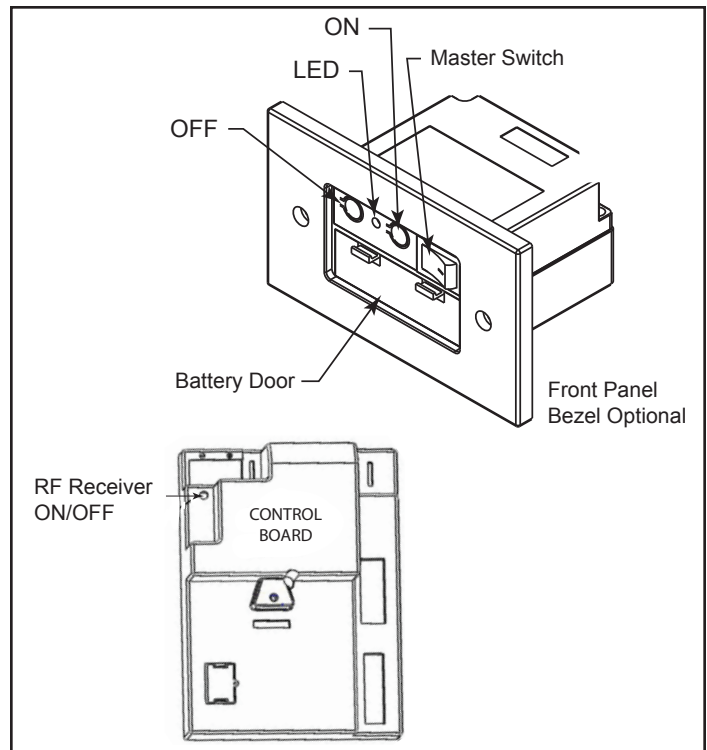

Figure 5.5 - Command center and control board
- The RF receiver button on the control board in the stove must be in the ON position before the learn function can begin. With the Command Center master switch in the ON position, use paper clip to depress the recessed button on Control Board, one beep for RF receiver ON or two beeps for RF receiver OFF. Figure 5.5